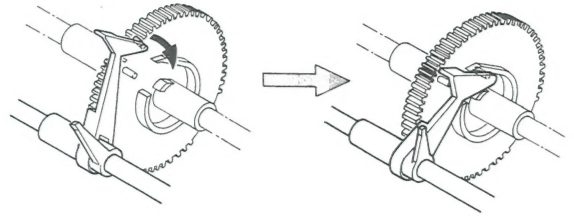

Fig. 18
- 3) Insert the hub of the lever (gear stopper) into the cam of each gear. (See figure 18)